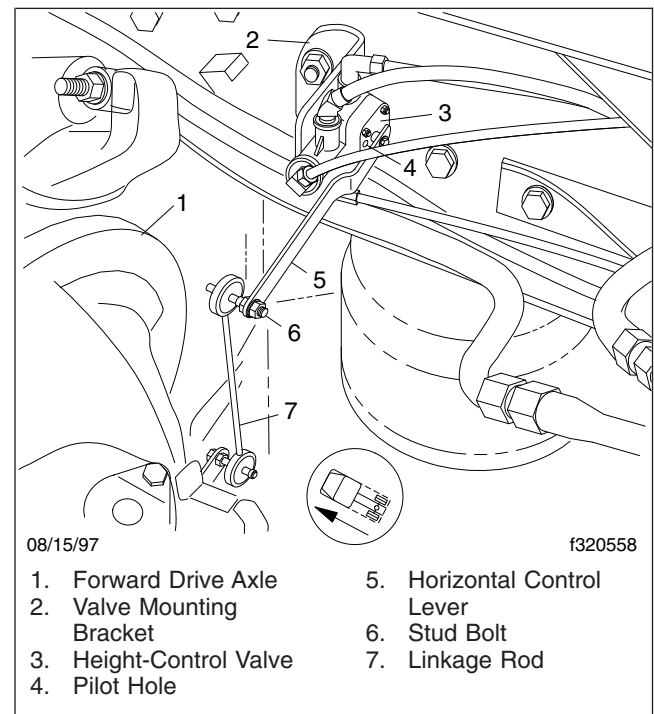

Fig. 1, Height-Control Valve Assembly
4. Disconnect the vertical linkage from the control lever; see Fig. 1.